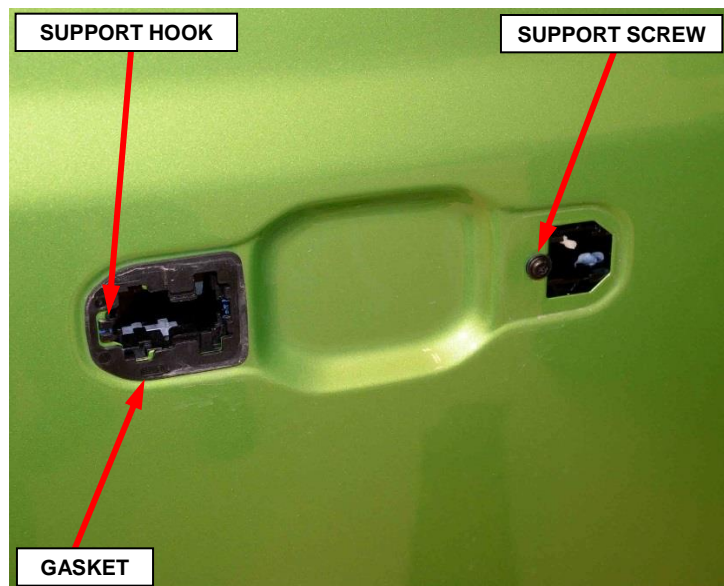

Figure 6 – Exterior Door Handle Bracket
10. Loosen the exterior door handle bracket support screw but do not remove it, and slide the handle bracket forward (Figure 6).